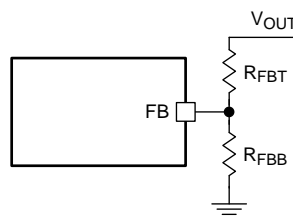

**Figure 13. SW Node and Inductor Current Waveforms in Continuous Conduction Mode (CCM)**
The following operating description of the LMR23630 will refer to the *Functional Block Diagram* and to the waveforms in *Figure 13*. LMR23630 is a step-down synchronous buck regulator with integrated high-side (HS) and low-side (LS) switches (synchronous rectifier). The LMR23630 supplies a regulated output voltage by turning on the HS and LS NMOS switches with controlled duty cycle. During high-side switch ON time, the SW pin voltage swings up to approximately  $V_{IN}$ , and the inductor current  $i_L$  increase with linear slope  $(V_{IN} - V_{OUT}) / L$ . When the HS switch is turned off by the control logic, the LS switch is turned on after an anti-shoot-through dead time. Inductor current discharges through the LS switch with a slope of  $-V_{OUT} / L$ . The control parameter of a buck converter is defined as Duty Cycle  $D = t_{ON} / T_{SW}$ , where  $t_{ON}$  is the high-side switch ON time and  $T_{SW}$  is the switching period. The regulator control loop maintains a constant output voltage by adjusting the duty cycle  $D$ . In an ideal buck converter, where losses are ignored,  $D$  is proportional to the output voltage and inversely proportional to the input voltage:  $D = V_{OUT} / V_{IN}$ .